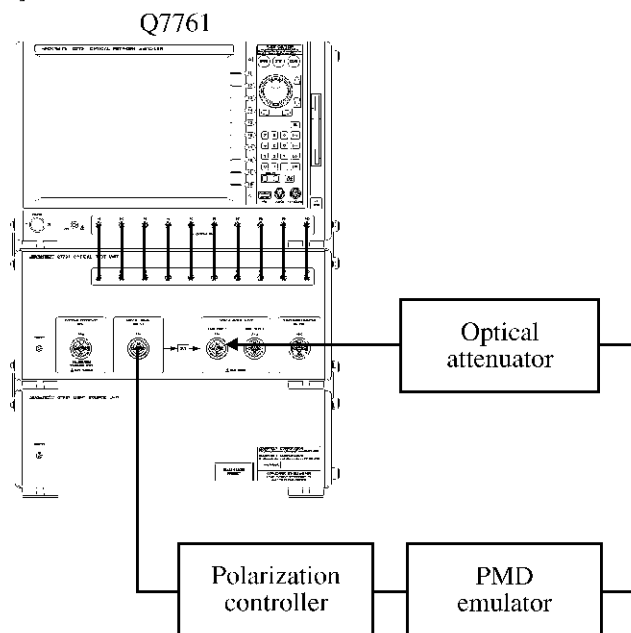

Figure 2-15 Connection for Relative Group Delay Time Accuracy Test
1. Connect equipment as shown in Figure 2-15.